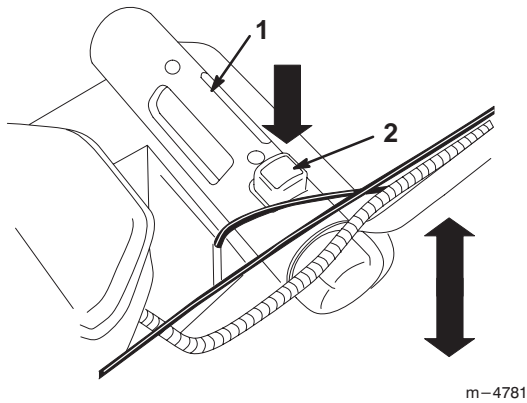

Figure 16
4. Press down on the red button and hold the cutting height adjustment handle to move the cutting height up or down (Fig. 16).